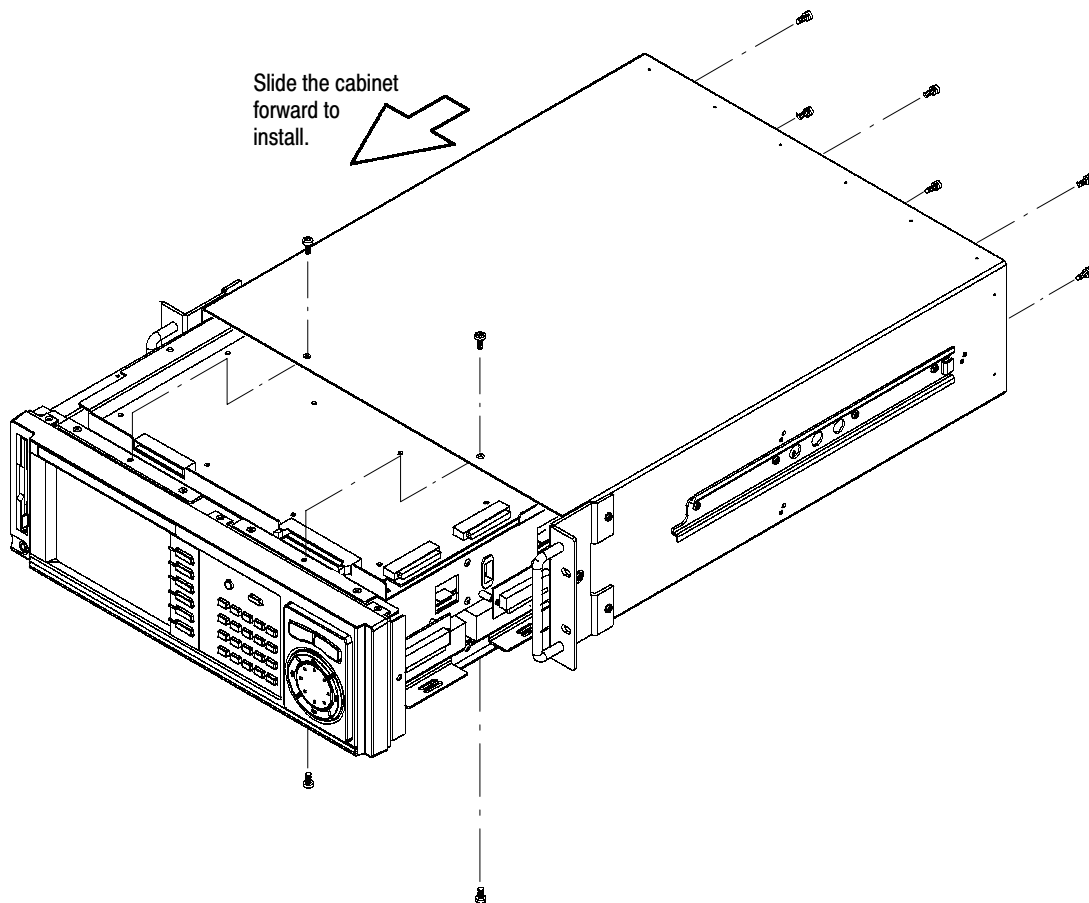

Figure 5: Installing the rackmount cabinet
2. To install the cabinet, grasp the right and left edges of the cabinet, and then carefully slide the cabinet towards the front of the MPEG generator. See Figure 5.
3. Using the screwdriver with a #2 Phillips tip, install the six screws securing the rear of the cabinet to the MPEG generator. See Figure 5.
4. Using the screwdriver with a #2 Phillips tip, install the four screws securing the front of the cabinet to the MPEG generator. See Figure 5.